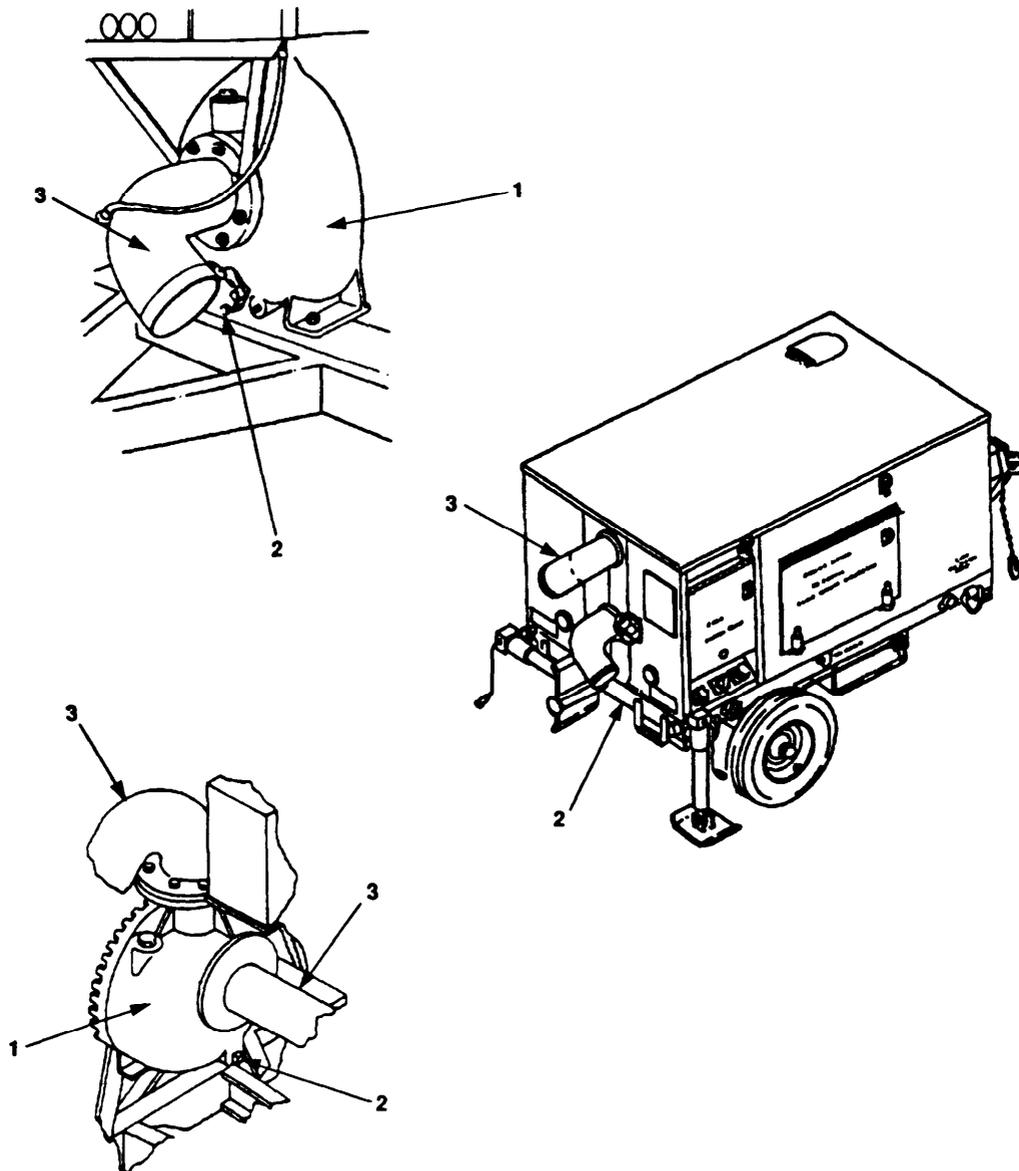

Figure 2-35. Pumping Assemblies Drain Plug Locations.
2.7.1 Draining and Preparation of Pumping Assemblies. Refer to Figure 2-35 and drain pumping assembly for movement as follows:
- a. Remove drain plug (2). Drain pump (1).
- b. Install drain plug (2).